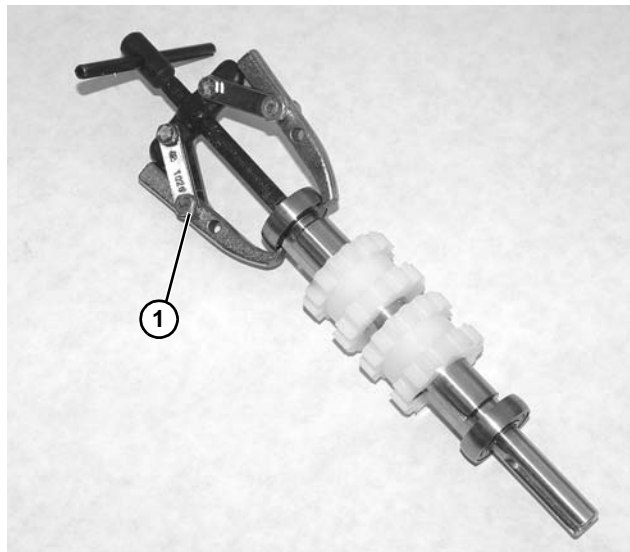

Figure 36
3. Use bearing removal tool (807-1078) (Figure 36, item 1) to remove bearings from drive pulley.